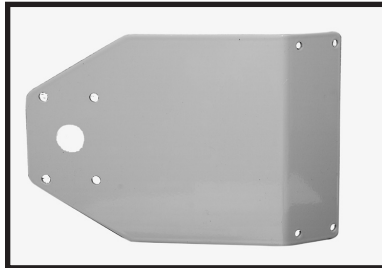
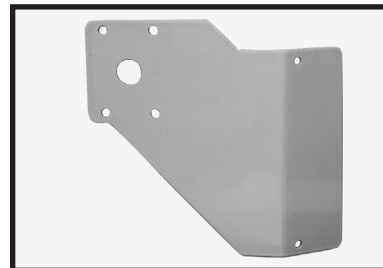

Fig. 18
Fig. 19
6. Attach the lower guide rail (E) Fig. 19 to the two holes in the stand, using the two flat washers and nuts that were removed from the lower rail assembly in **STEP 2**.
**NOTE:** Place the long end of rail (E) Fig. 19 (stud farthest from the end) toward the front.
7. Tighten the four nuts that attach the guide rail (F) Fig. 19 to the stand. Leave a space of 2-1/8" between the guide rail and the stand. Final adjustments will be made later.
1. If your switch bracket looks the same as the bracket in Fig 18, order a new switch bracket (#432-02-014-0017) that looks the same as the bracket in Fig. 19 .